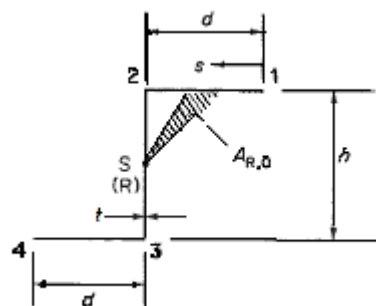

Figure 3:
- (b) An open section beam of length L has the section shown in Figure 3 The beam is firmly built-in at one end and carries a pure torque T. Derive expressions for the direct stress and shear flow distributions produced by the axial constraint (the  $\sigma_T$  and  $q_T$  systems) and the rate of twist of the beam. [4+12]